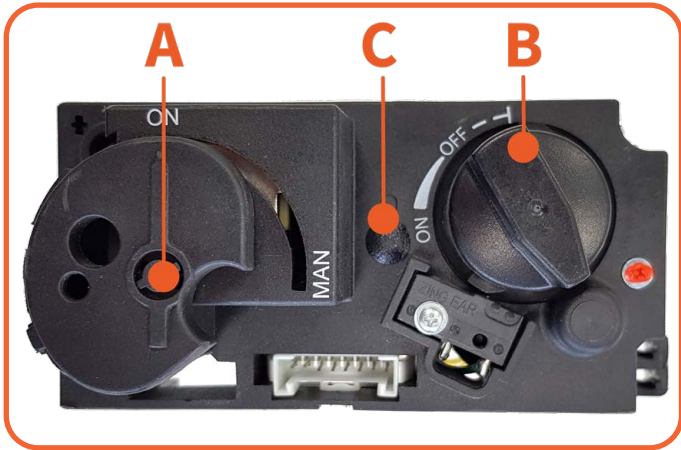

Figure 4.3 - Gas Block
- the gas valve (**Figure 4.3**)
Check that the control knob (A) is in the ON position (Figure 4.3). Press the button on/off button of your remote control and continue to hold down (3 to 5 sec.) until you hear two short beeps.
After starting the pilot, knob B will automatically rotate counter clockwise and the main burner will start burning (Figure 4.3).
In the case that a fireplace has the incorrect burner pressure, one may adjust this by removing the little black cap (C in Figure 4.3) and turn the small screw underneath.